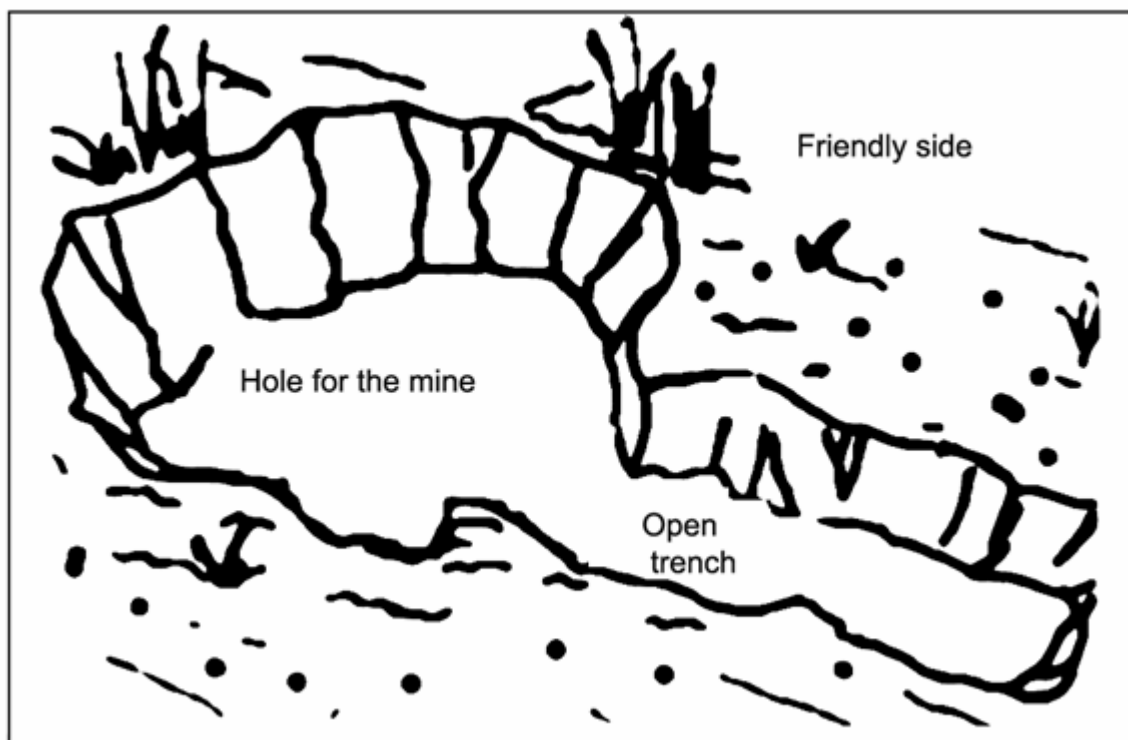

Figure 052-192-1154-1
- c. Dig a hole to fit the mine, with a trench coming off of the side at a 45-degree angle toward the friendly side (Figure 052-192-1154-1).